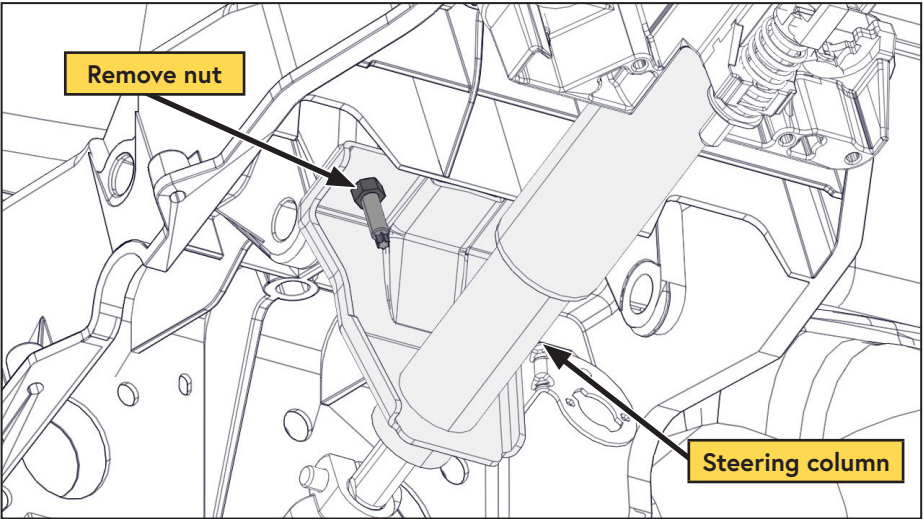

Figure 77 — Mount inverter onto bracket
- ☐ Locate the mounting stud on the driver side of the steering column under the dashboard, remove the nut and set it aside (Figure 77).